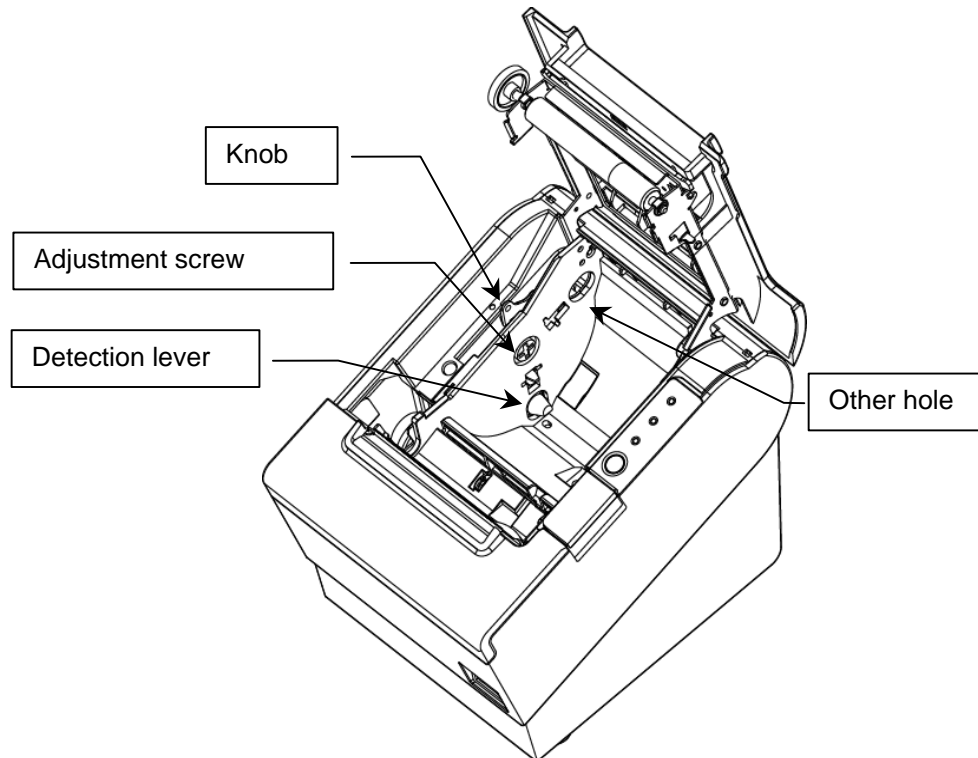

Figure D.2 Changing the Near-end Sensor Position
3. Change the roll paper near-end sensor position, in order to detect the paper near-end correctly when the printer is attached to a wall. (See Figure D.2 Changing the Near-end Sensor Position.)